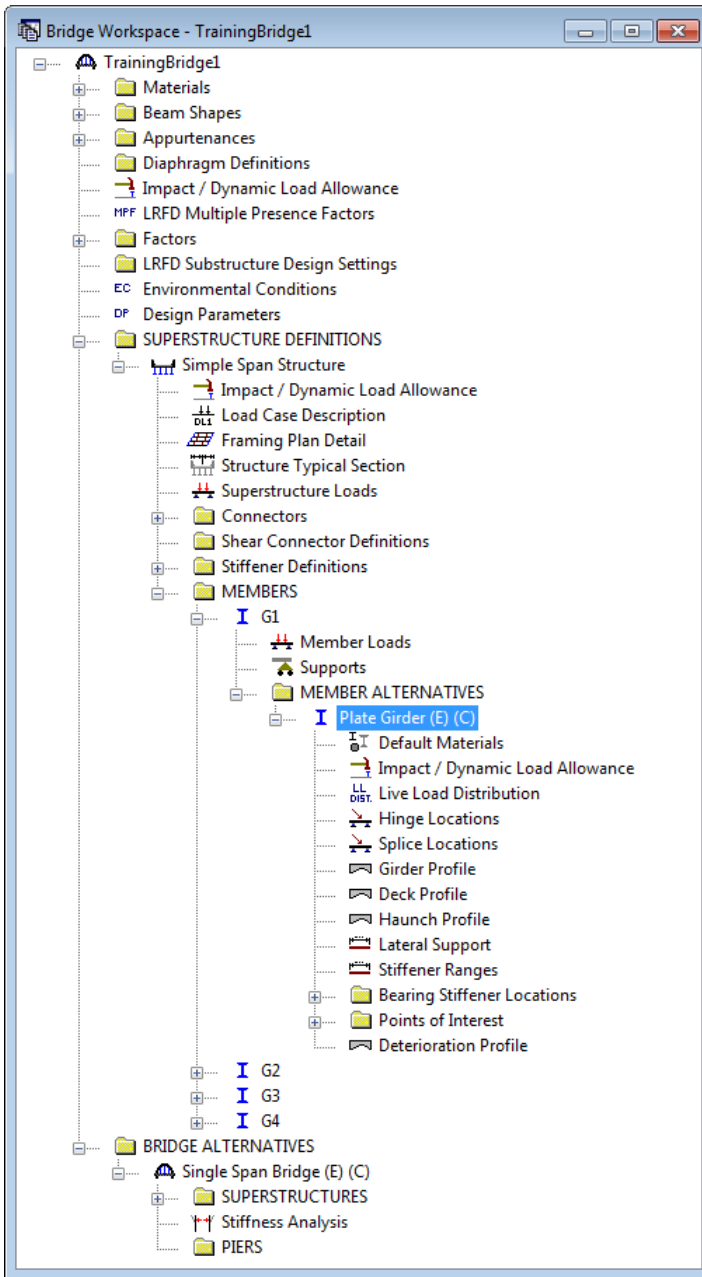

Fig 2. G1 - Bridge Workspace Tree - Girder Member Alternative
Once Bridge Workspace tree shows up, expand “Simple Span Structure” under “SUPERSTRUCTURE DEFINITIONS” in the tree by clicking on “+”. Then expand “MEMBERS” and select “G1”. Expand “G1” and select “Plate Girder (E)(C)” under “MEMBER ALTERNATIVES”. Expand “Plate Girder (E)(C)” by clicking on “+”. Now Bridge Workspace tree will be as shown in Fig 2.